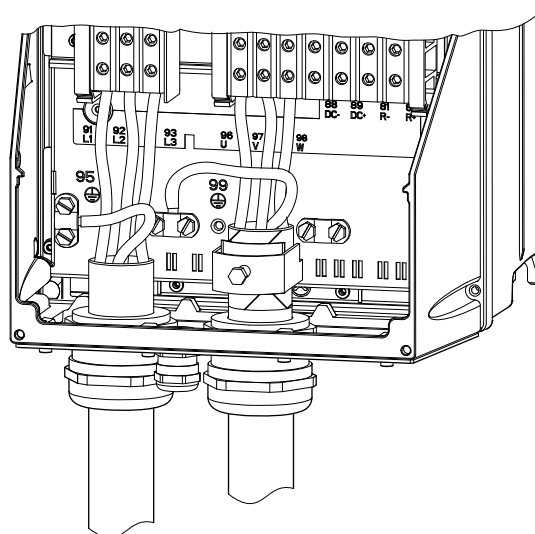

Fig. 18 Mains and motor connection, C1 and C2
1. Connect the earth conductor to terminal 95 (PE). See fig. 18.
1. Connect the earth conductor to terminal 99 (PE). See fig. 18.
2. Connect the motor conductors to the terminals 96 (U), 97 (V), 98 (W).